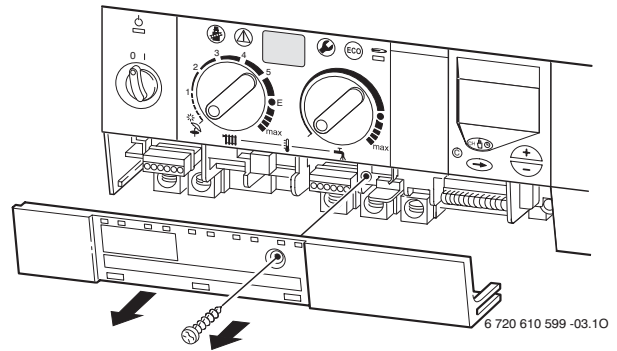

Fig. 22
- ▶ Remove screw and slide terminal cover forwards to remove. Refer to fig. 22.